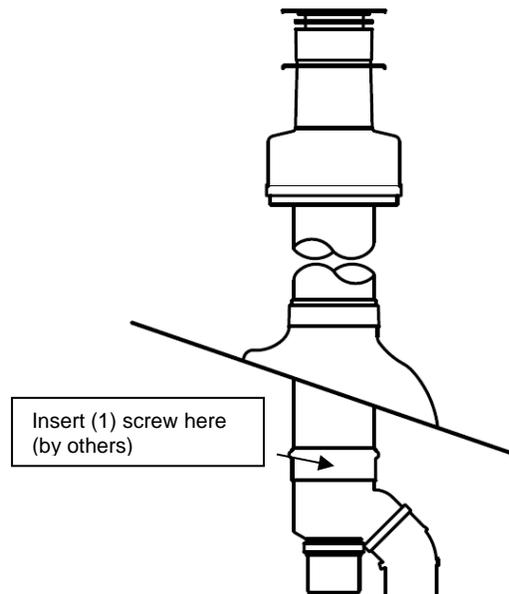

Figure 12
*Concentric Vertical Terminations (black UV, Fig 12):*
2. The 2"x4" (51mm x 102mm) Vertical Concentric Termination (VCT) will only extend a maximum of 33" (838mm) above the roof deck due to the concentric adapter and Wall Strap (WS) connections.
7. Utilize (1) ½" (13mm) or ¾" (19mm) long sheet metal screw (by others) into the connection of the Concentric Adapter (CTA) and the outer wall of the concentric termination (just below the outer wall gasket bead)